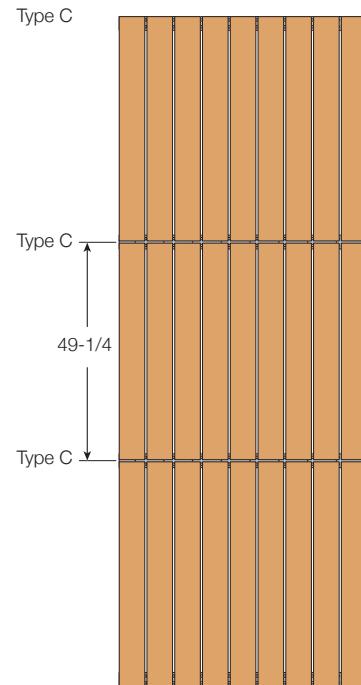

FIG. V7
- In a stacked layout, the on center spacing of the Type C profile will be 49.2" on center (1250mm) (FIG. V7).